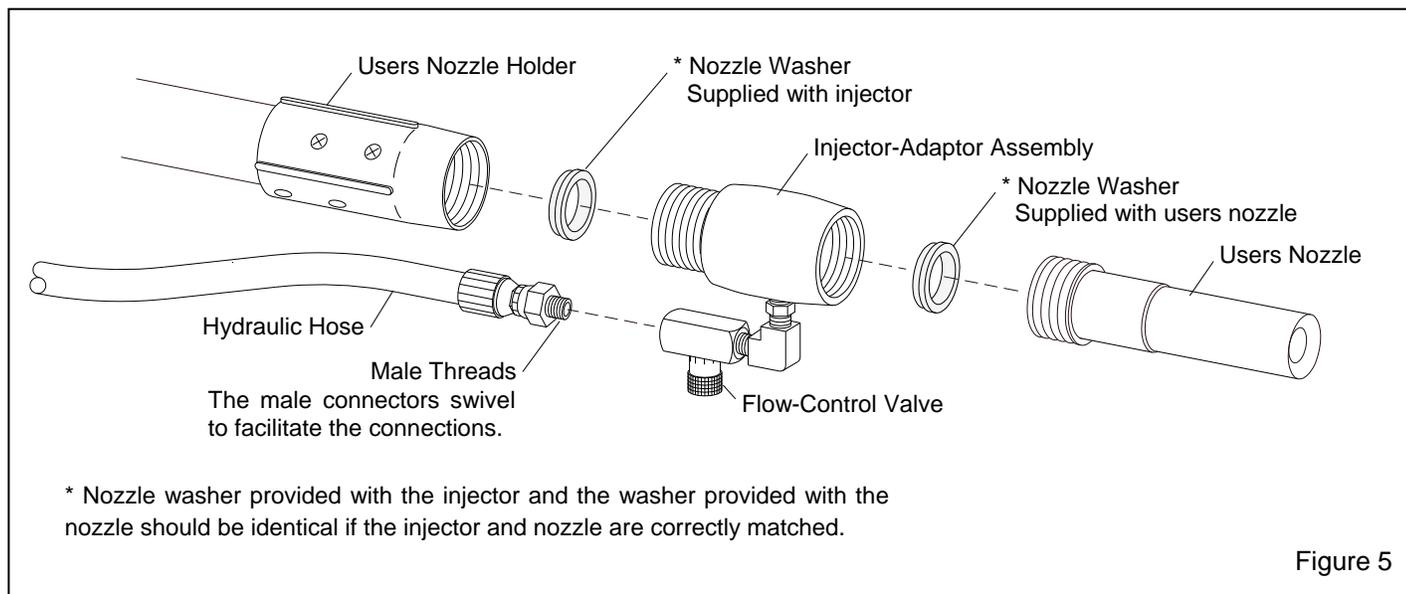

Figure 5
2.4 Attach Injector to User-Supplied Blast Hose, Figure 5
2.4.1 Place the nozzle washer provided with the injector into the nozzle holder, and thread the adaptor assembly into the holder, as shown in Figure 5. Thread the injector into the nozzle holder to firmly compress the washer between the injector and holder. NOTE: Rotate the flow-control valve, positioning the knob so the operator with a gloved hand can turn the knob to regulate water flow.
2.5 Connect Hydraulic Hose Between the Injector and Pump Module, Figures 5 and 6
2.5.1 Apply thread sealant to the male threads only, on one end of the 50-ft. hydraulic hose and connect it to the injector-adaptor as shown in Figure 5. The male connectors on both ends of the hydraulic hose swivel to facilitate the connections to the injector and pump module.